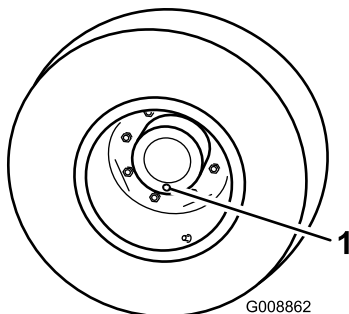

Figure 90
1. With the machine on a level surface, position a wheel so a check plug is at the lowest (6 o'clock) position (Figure 90).